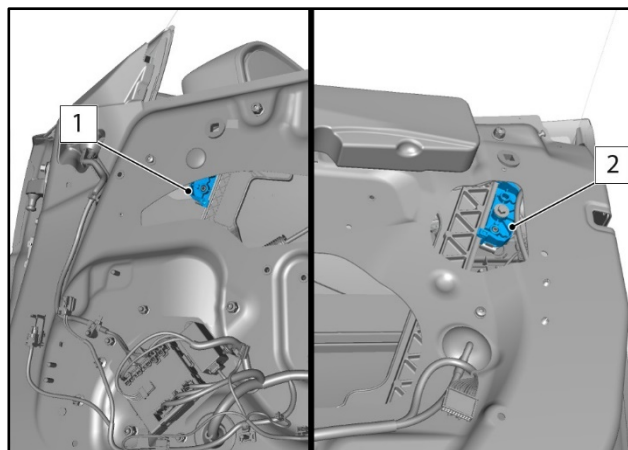

Figure 4
13. Manually move the door glass up or down so that the front (1) and rear (2) regulator cursors are visible (refer to Figure 4).